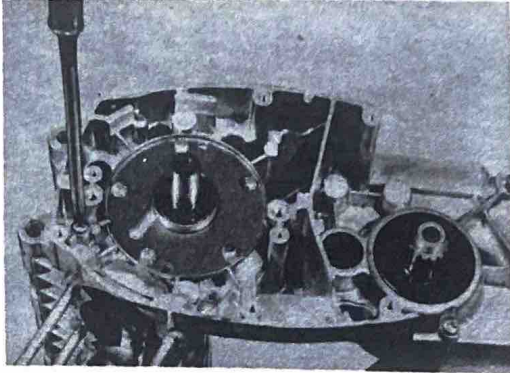

Fig. 4-13-1
- a. Remove the pan-head screws on the crank case R. Note that two of these bolts are provided with a rubber cap. (Figs. 4-13-1 and 2)